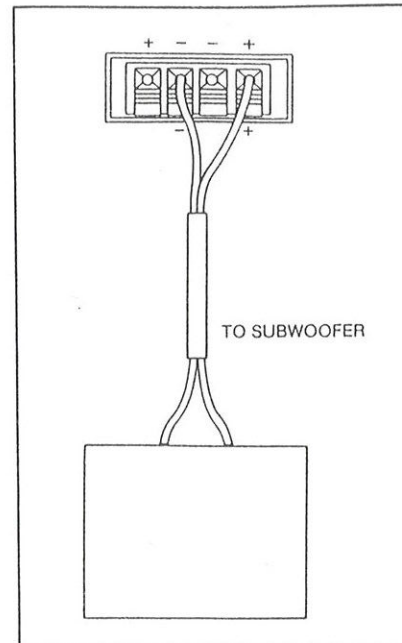
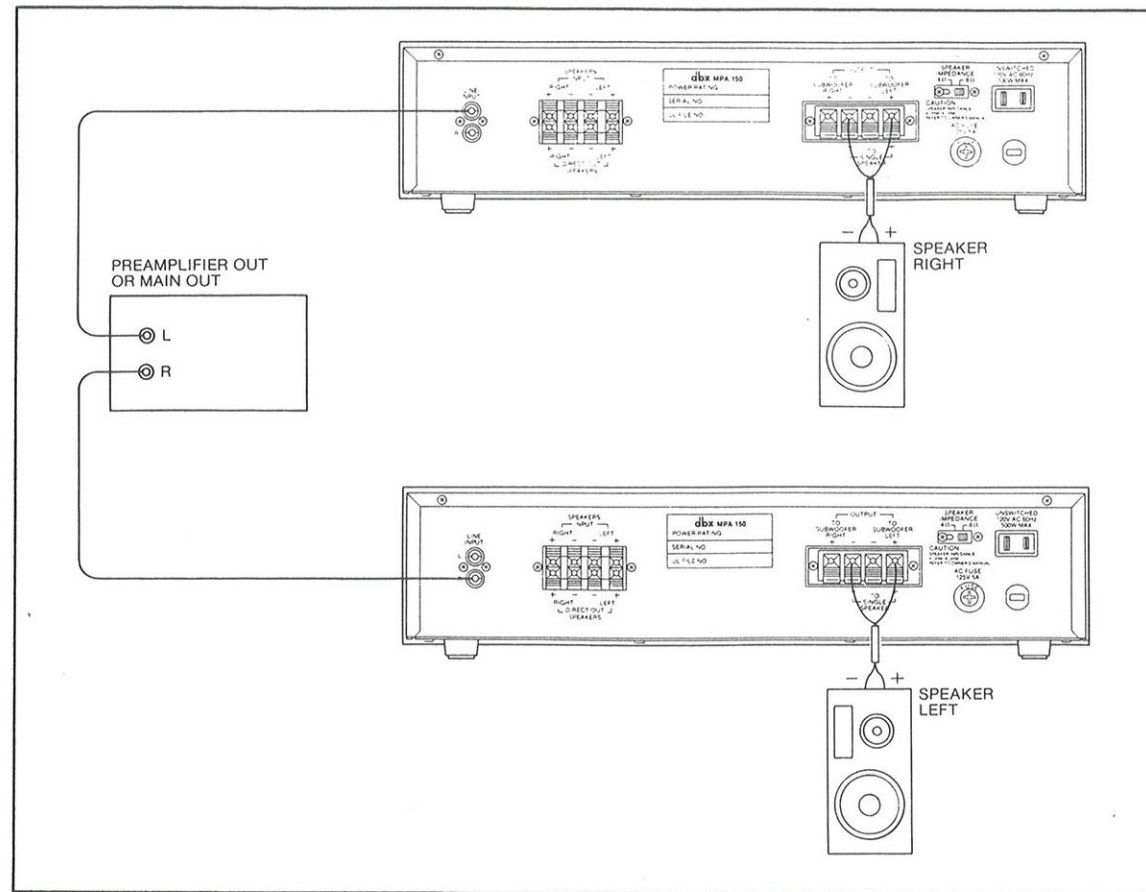
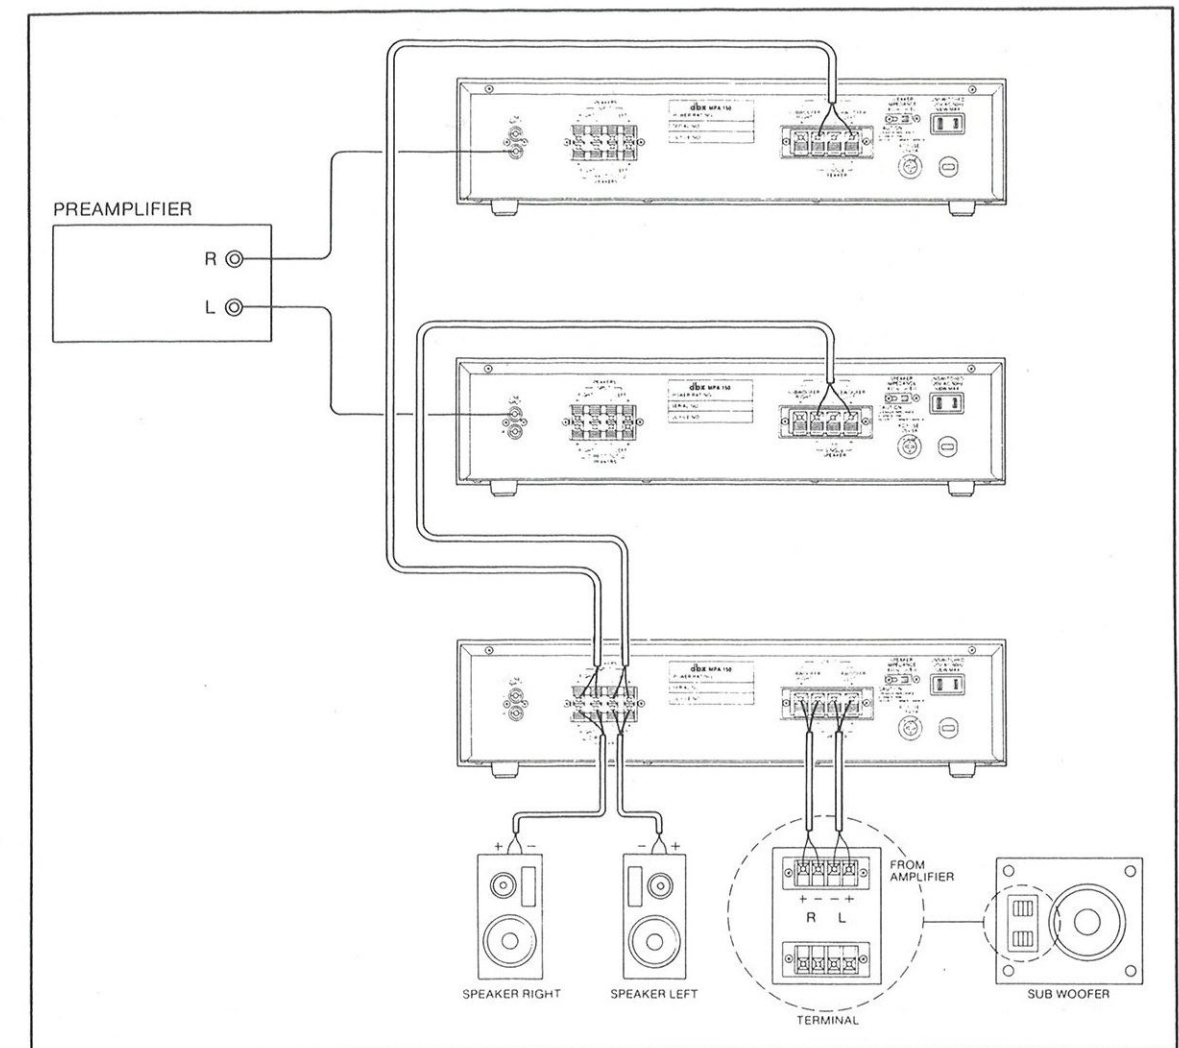

Figure 2
Figure 4
Figure 5
Note: For subwoofers with single wound voice coils, such as the dbx db-PSW18 or equivalent, connect the subwoofer input terminals to the **TO SINGLE SPEAKERS** terminals on the MPA 150 rear panel as shown in Figure 2.
2. Connect the left preamplifier output (or main output) terminal to the left **LINE INPUT** terminal on the rear panel of one MPA 150 as shown in Figure 4. Then, connect the right preamplifier output (or main output) terminal to the right **LINE INPUT** terminal on the rear panel of the other MPA 150 to drive the right channel separately. (See Figure 4.)
3. Connect your left loudspeaker input terminals to the **TO SINGLE SPEAKERS** terminals on the rear panel of the MPA 150 that you're using to drive your left channel. (See Figure 4 and close-up Figure 2.) Then, connect your right loudspeaker input terminals to the **TO SINGLE SPEAKERS** terminals on the rear panel of the other MPA 150 that you're using to drive your right channel as shown in Figure 4 (or in close-up in Figure 2).
2. Connect the left preamplifier output (or main output) terminal to the left **LINE INPUT** terminal on the rear panel of one MPA 150 as shown in Figure 5. Then, connect the right preamplifier output (or main output) terminal to the right **LINE INPUT** terminal on the rear panel of a second MPA 150 to drive the right channel separately. (See Figure 5.)
3. Connect the **TO SINGLE SPEAKERS** terminals on the rear panel of the MPA 150 that you're using to drive your left channel to the left **SPEAKERS INPUT** terminals on the rear panel of a third MPA 150. (See Figure 5 and close-up Figure 2.) Then, connect the **TO SINGLE SPEAKERS** terminals on the rear panel of the second MPA 150 that you're using to drive your right channel to the right **SPEAKERS INPUT** terminals on the rear panel of the third MPA 150 as shown in Figure 5 (and close-up view in Figure 2).
4. Connect your left and right loudspeakers to the left and right **DIRECT OUT SPEAKERS** terminals on the rear panel of the third MPA 150 as shown in Figure 5.
6. Connect your dbx Model db-SW15 or BSR Model DR-SW15X2 or equivalent subwoofer left and right input terminals to the left and right **OUTPUT TO SUBWOOFER** terminals on the rear panel of the third MPA 150 to drive your subwoofer as shown in Figure 5.
Note: For subwoofers with single wound voice coils, such as the dbx db-PSW18 or equivalent, connect the subwoofer input terminals to the **TO SINGLE SPEAKERS** terminals on the third MPA 150 rear panel as shown in Figure 2.